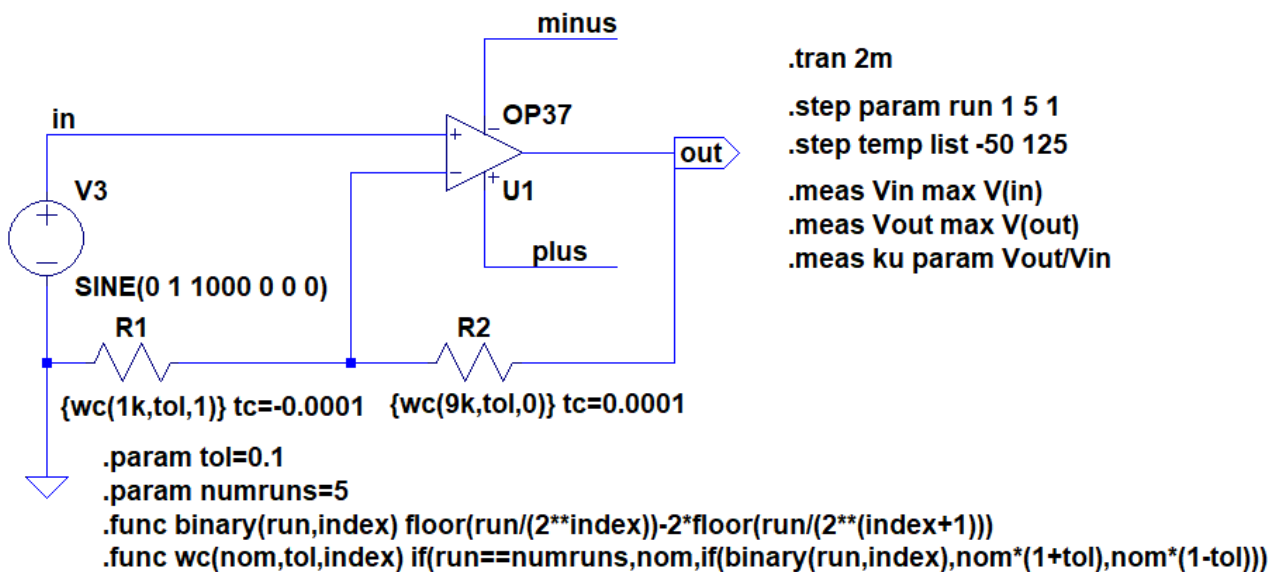

Fig. 6. Diagram of the tested amplifier circuit for WC analysis taking into account temperature changes.
2. Modify the amplifier circuit diagram as shown in Fig. 6.